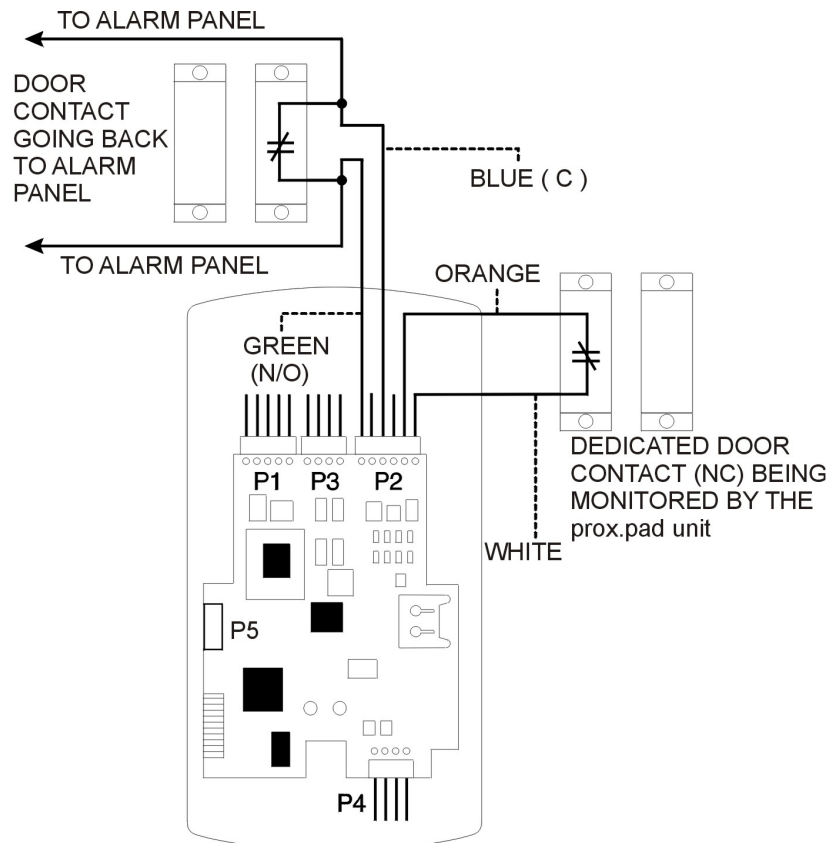

Figure 9: Wiring the Aux Relay for Alarm Shunt Operation
The Alarm Shunt Relay function may be necessary when a separate existing security system is in place. The Alarm Shunt Relay keeps an alarm panel zone from going into alarm when the door is opened, after a valid code is entered. No programming is required for a new unit out-of-box, or if the unit is ever defaulted using programming commands 40 or 46. The prox.pad controller assigns the AUX relay to the Alarm Shunt Relay automatically upon any valid access or egress. To incorporate this feature, follow the steps below; see Figure 9.
3. Connect the 6-conductor harness to connector P2 as shown in Figure 9.
NOTE: This feature requires that you use the "Door Contact" input as shown in Figure 9.